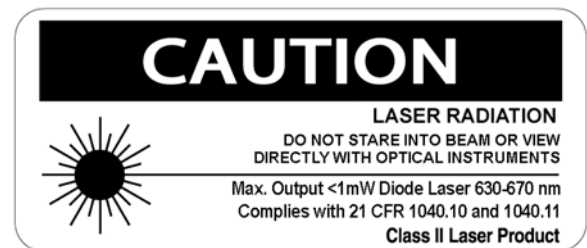

Figure 21
Referring to Figures 21 through 24:
**WARNING** Do not look directly into the laser beam or view it directly with optical instruments. See Figure 21.